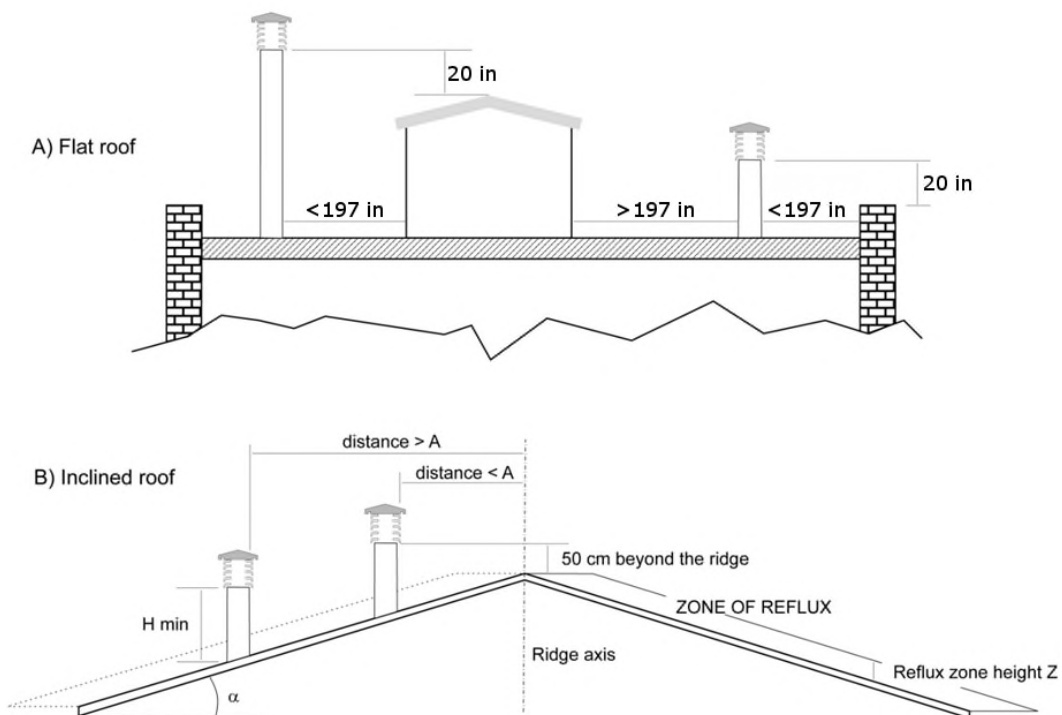

Fig.4
- The chimney cap must be positioned so as to guarantee an adequate dispersion and dilution of combustion products and, in any case, outside the zone of reflux. This zone can be different sizes and shapes depending on the angle of slope of the roof, so it is necessary to adopt the minimum heights shown in Fig.4 and Fig.5.
- The chimney cap must be of windproof and exceed the height of the ridge, Fig.4 and Fig.5.
- Any buildings or other obstacles that exceed the height of the chimney cap must not be close to the chimney cap itself (Fig.4).